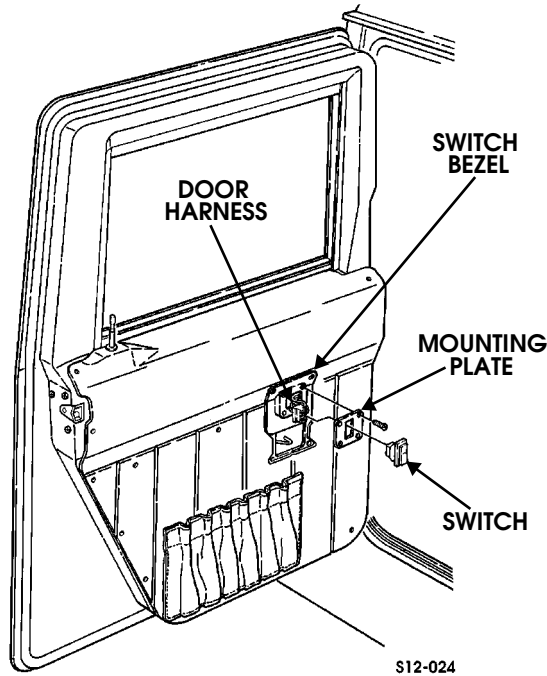

Figure 12-2: Power Door Lock Switch Mounting
1. Remove mounting plate, capscrews, and remove switch from switch bezel (Figure 12-2).